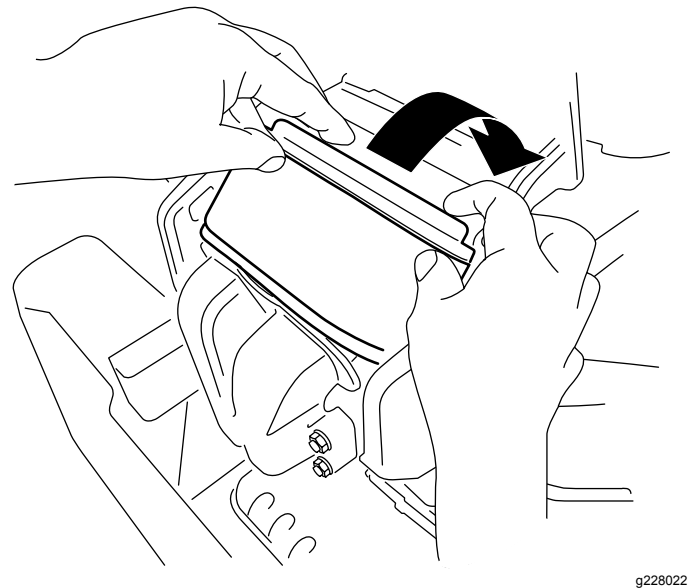

Figure 42
3. Rotate the filter down into the chamber and fully seat it against the manifold (Figure 42).